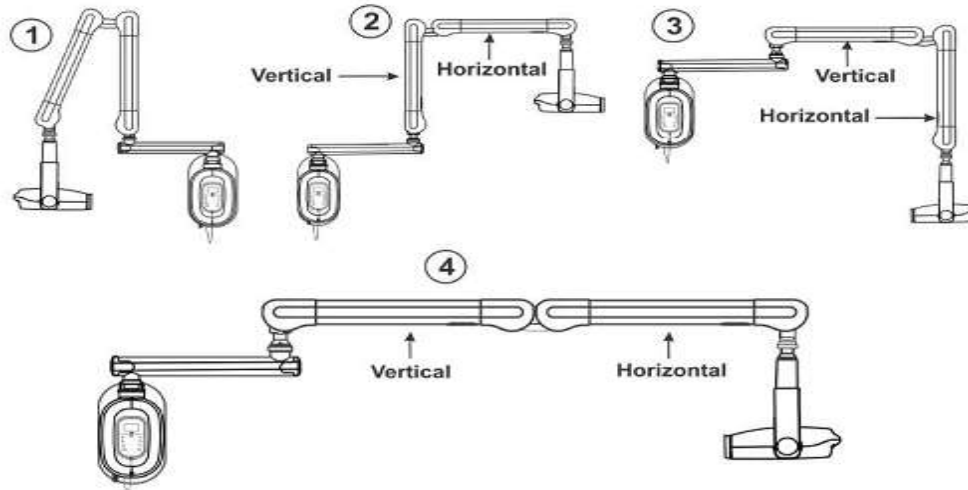

Figure 40
- Keep vertical arm in vertical position and the horizontal arm in horizontal position as shown in the Figure 40 (illustration 2). The scissor arm should not droop from its position. If it droops, tighten the horizontal arm spring using Flat screw driver through the spring adjustment window (by tightening the slotted nut as shown in Figure 38).
- Keep the scissor arm with both arms vertical position (folded position) as shown in the Figure 40 (illustration 1). The Scissor Arm should stay in its locked position without moving or drifting. If unstable, replace the Scissor Arm.
- Keep the vertical arm in horizontal position and horizontal arm in vertical position as shown in the Figure 40 (illustration 3). Both the arms should stay in position without moving. In this position the horizontal arm is in locked position and no adjustments are required for the horizontal arm. If the vertical arm is unstable adjust the vertical arm spring by loosening (by loosening the slotted nut) using flat screw driver through the spring adjustment window as shown in Figure 38 .
- Move the scissor arm very slowly in small increments from step 3 to fully expanded position as shown in illustration 4 of Figure 40. The scissor arm should stay stable at all positions. If unstable, Scissor Arm need to be replaced.